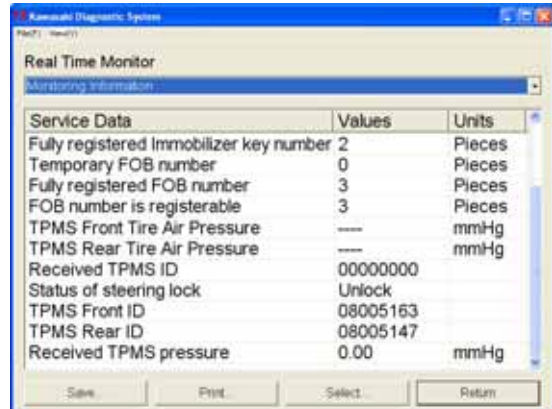

Fig. 5-27 Registration Confirmation
- o To confirm the new TPMS ID is registered correctly, go to **Real Time Monitor** screen (Fig. 5-27)